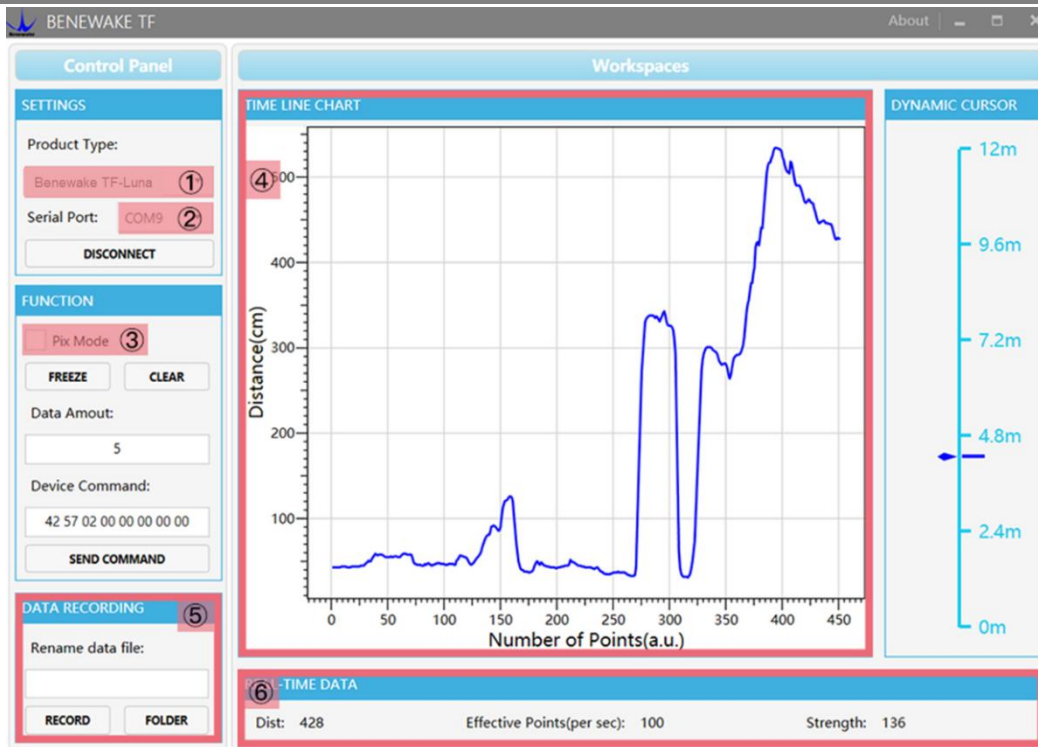

Figure 10 PC software Interface and Display
- ③ Open your test software and check data output
Open the PC software and select "①TF-Luna" and select automatically recognized occupied serial port (in this case "② COM9") as shown in Figure 10.